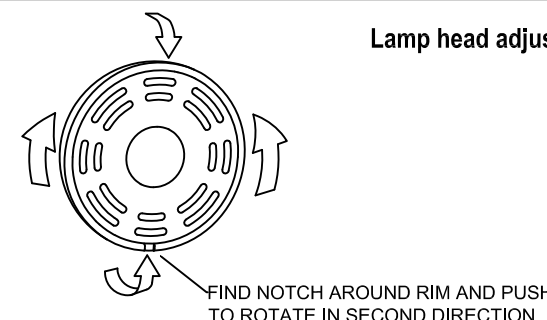

Fig 6
9. Adjust the lamp heads as required (see Fig 6).